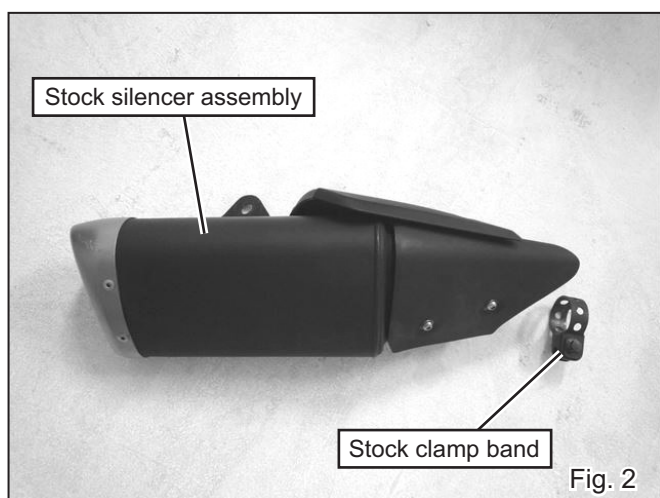

Fig. 2
- 3) Remove stock clamp band from silencer assembly removed at step 2) (See Fig. 2). Removed clamp band is used when Yoshimura slip-on is mounted.